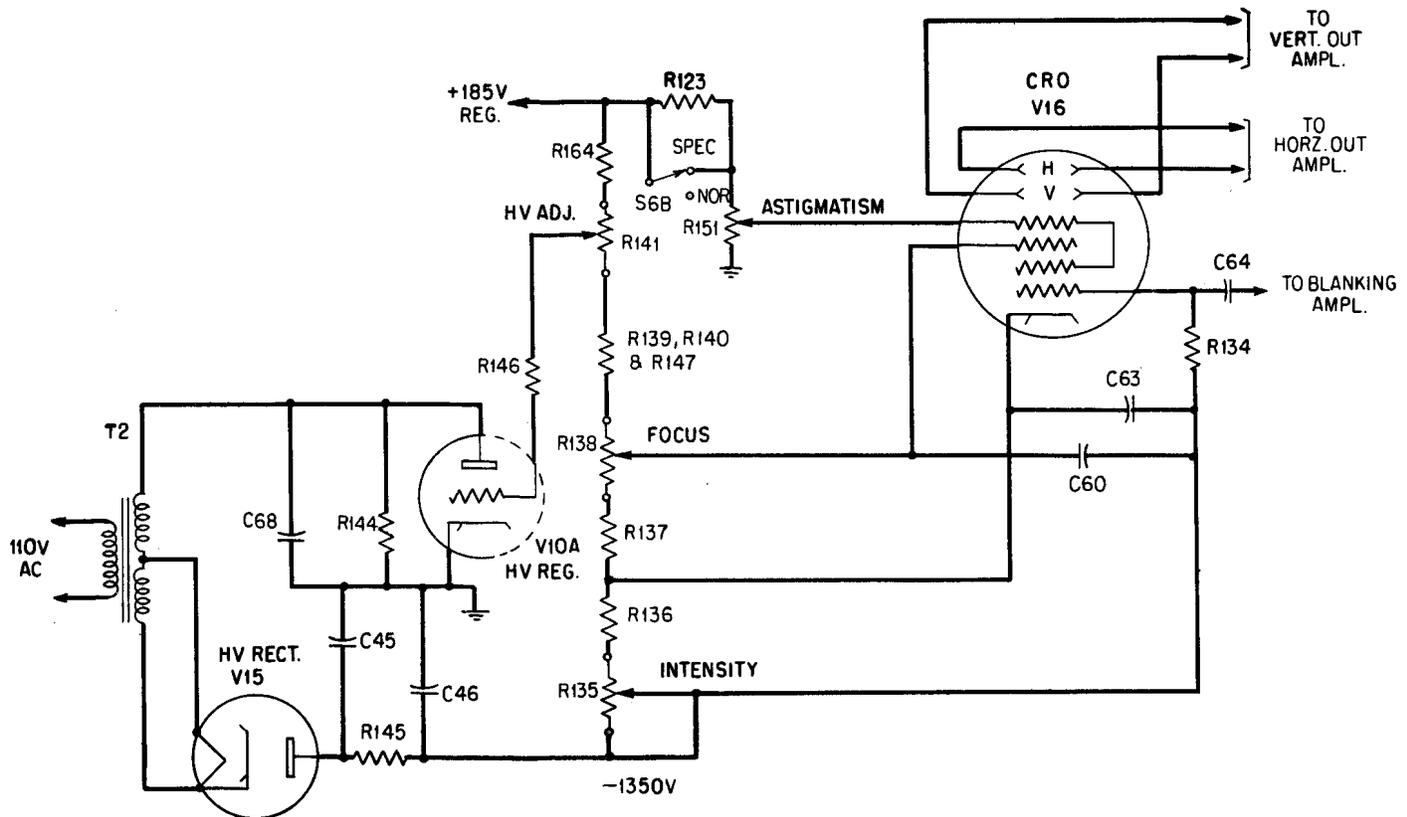

Fig. 13 — KS-15512, List 5 Oscilloscope Regulated High-Voltage Supply and Cathode-Ray Tube Circuit
4.27 (I) High-Voltage Supply: (See Fig. 13)